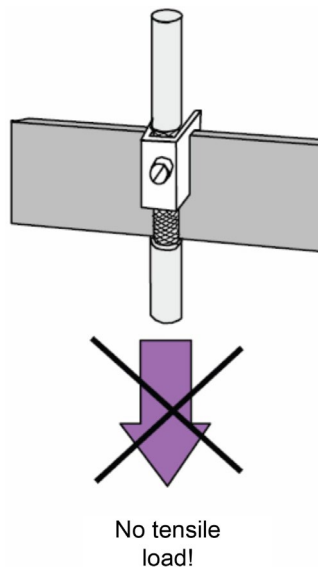

Figure 1.13 – Do not use the shielding connection for voltage discharge
- Do not use the shield connection as a strain relief since this may reduce the effectiveness of the bonding and may cause the cable shield to be damaged (Figure 1.13). An exception would be when using parts that are specifically designed for this purpose.